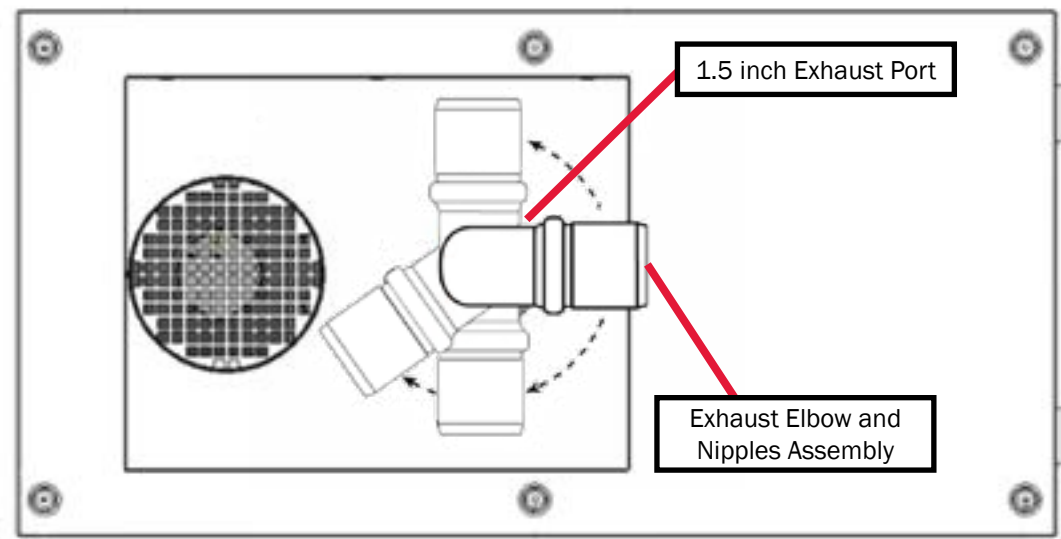
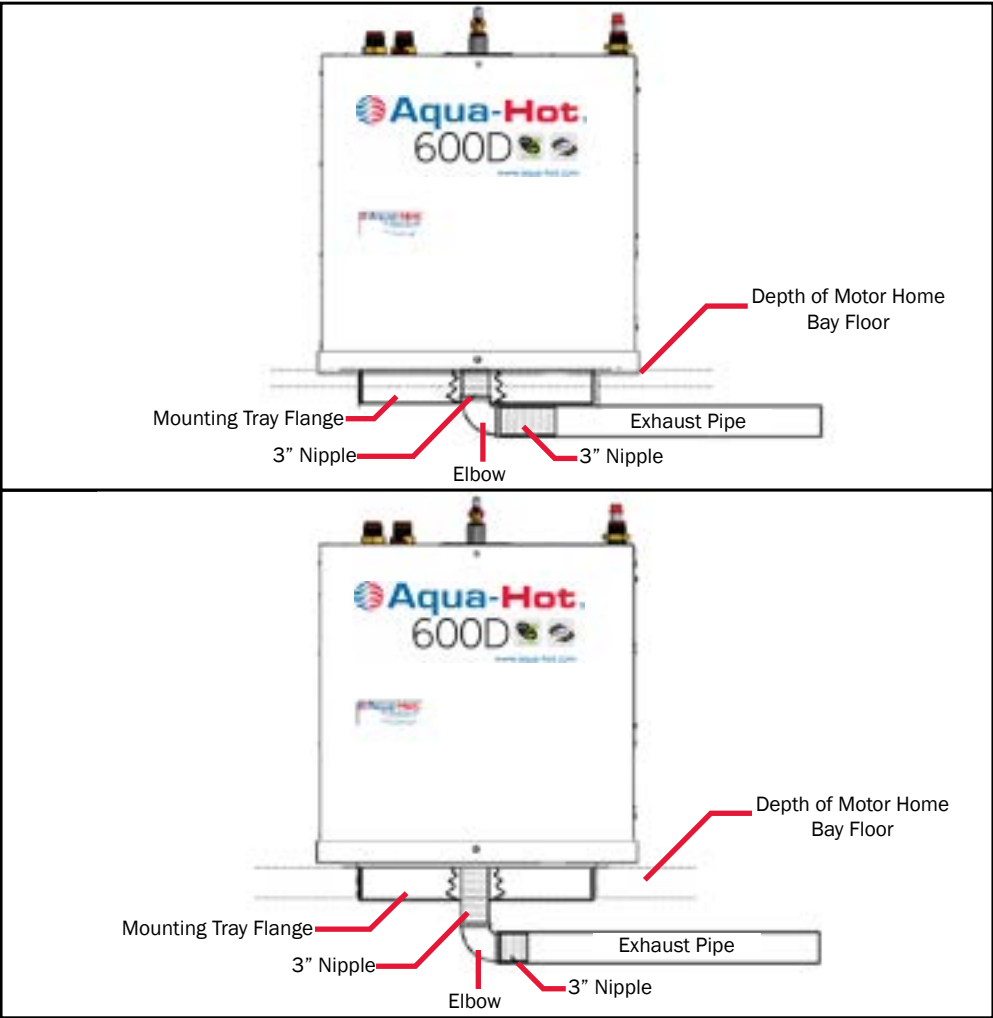

Figure 18
Figure 19
- Angle the exhaust pipe towards the rear of the vehicle, so that exhaust fumes will naturally move away while the vehicle is in motion. See Figure 18.
- The Aqua-Hot is supplied with a 3 inch and 4 inch black pipe nipple (1.5 inch diameter) along with a 1.5 inch exhaust elbow. Reference Figure 18. These three exhaust system components MUST BE utilized with all product installations. Be sure to reference Figure 19 and 20 to determine which exhaust nipple should be connected directly to the Aqua-Hot's exhaust port (the 3 inch of the 4 inch black pipe nipple).